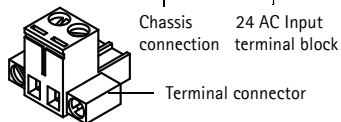

Figure 3
3. After connecting the cables to the terminal connector securely tighten all 4 connector screws. See Figure 3.